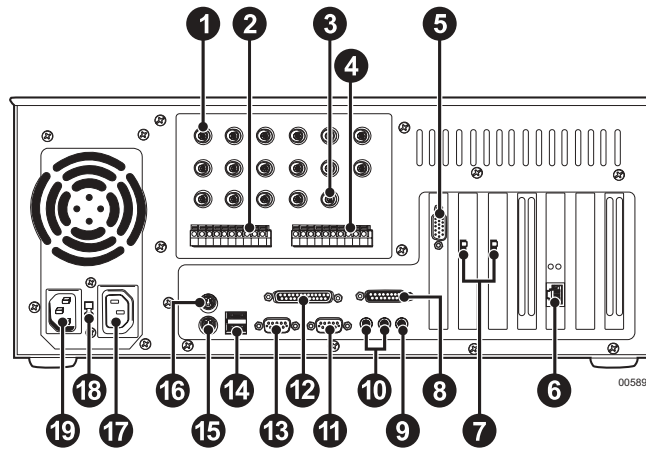

Figure 1. Rear View of Back Panel
- 2 SIGNAL TYPE - Selection must correspond with the NTSC/PAL selection switch setting. Refer to Figure 1, item 7.